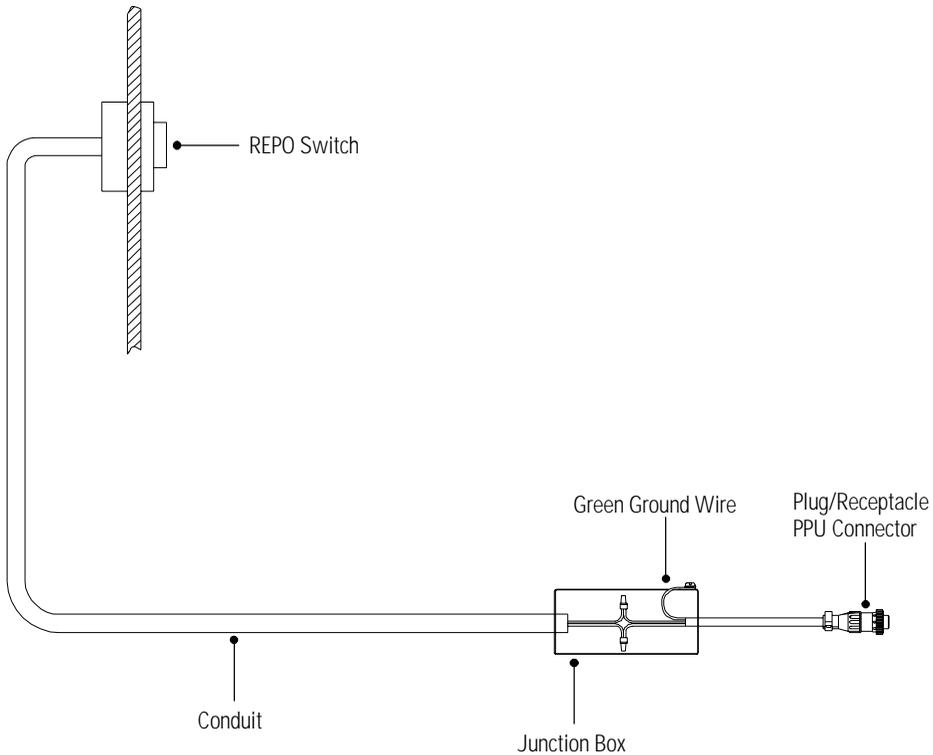

Figure 10. Standard REPO Cord
The optional three-wire REPO cord (see Figure 10) can be ordered from the manufacturer. The green wire is a safety ground for the REPO conduit. The REPO function activates when the black and white wires of the optional EPO cord are shorted together.
2. Connect the REPO cord to the conduit inside a junction box by twisting the ends of exposed wire together with the wire nuts (see Figure 10). Twist the wires until tight.